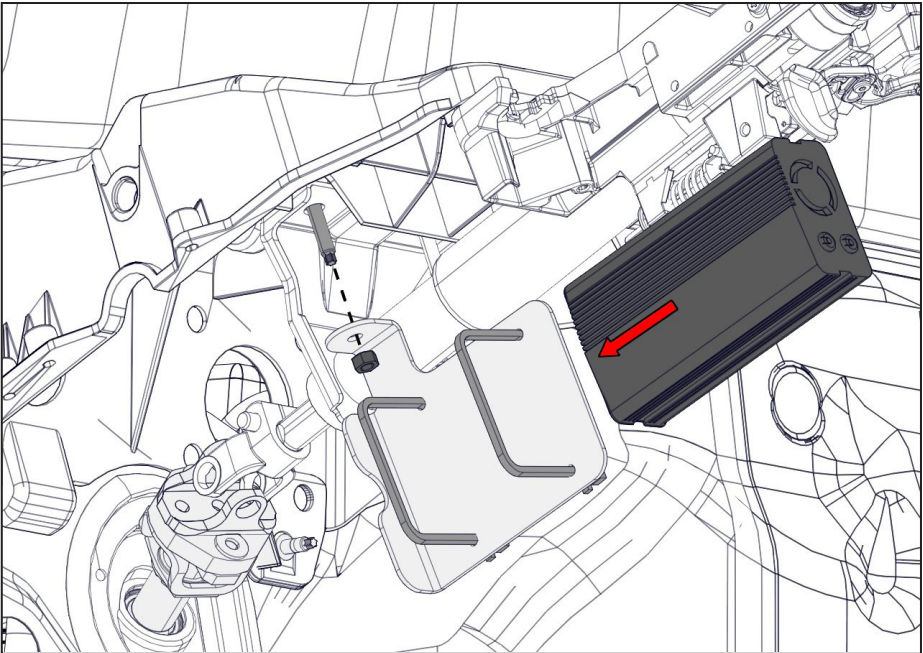

Figure 78 — Mount inverter onto bracket
- ☐ Install the bracket in the orientation shown using the OEM nut (Figure 78).
- ☐ Slide the inverter into the bracket and tighten the cables ties to secure it (Figure 78).